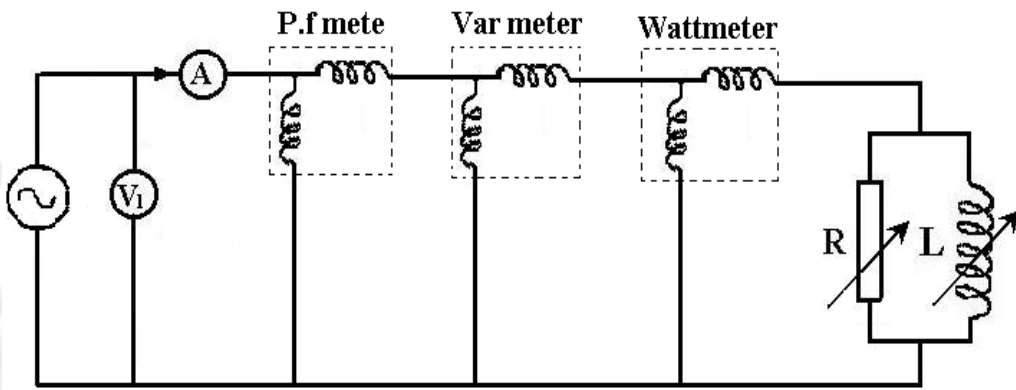

Fig. 5
- 1- Wire the circuit as shown in Fig. 5.
- 3- Compare between the reading of the wattmeter (W) and the calculated value of the power ($I V \cos \phi$).